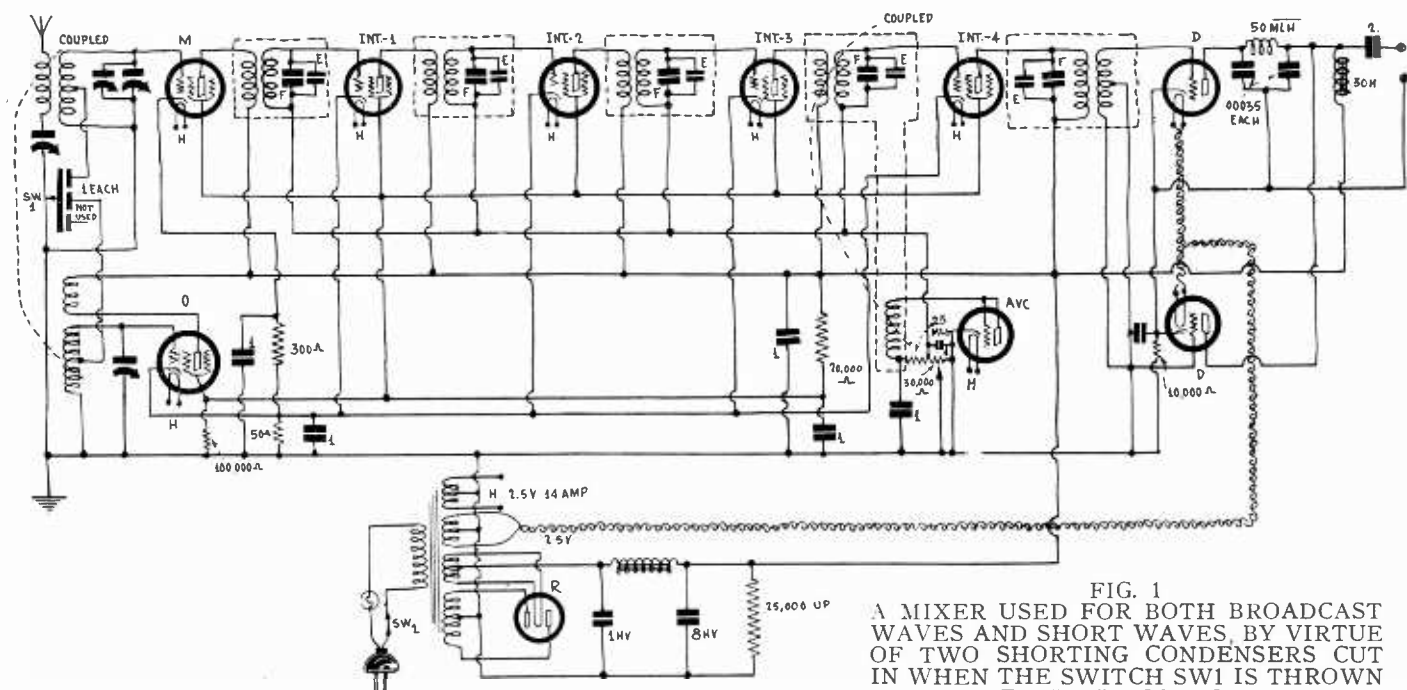

FIG. 1
**Coil No. 1**—Plate winding at bottom. Lower connection is for plate of the oscillator tube and connects to the P prong of the winding form. Put on 12 turns, side by side, close-wound. Terminate this winding so that it goes to the right-hand heater. See Fig. 1. This completes the plate winding. Now leave 1/8 inch and begin winding the other coil. Connect the beginning of this winding to the cathode prong of the tube winding form, put on two turns, tap and connect tap to the left-hand heater. Put on 12 turns more. Terminate the fourteenth turn at the grid prong of the tube winding form. This completes the winding of Coil No. 1.
**I**N the development of an all-wave receiver a mixer is generally used, especially for the short-wave reception, while the rest of the circuit may be a tuned radio frequency receiver. But it is possible to use the mixer for broadcast work as well, as shown in Fig. 1.